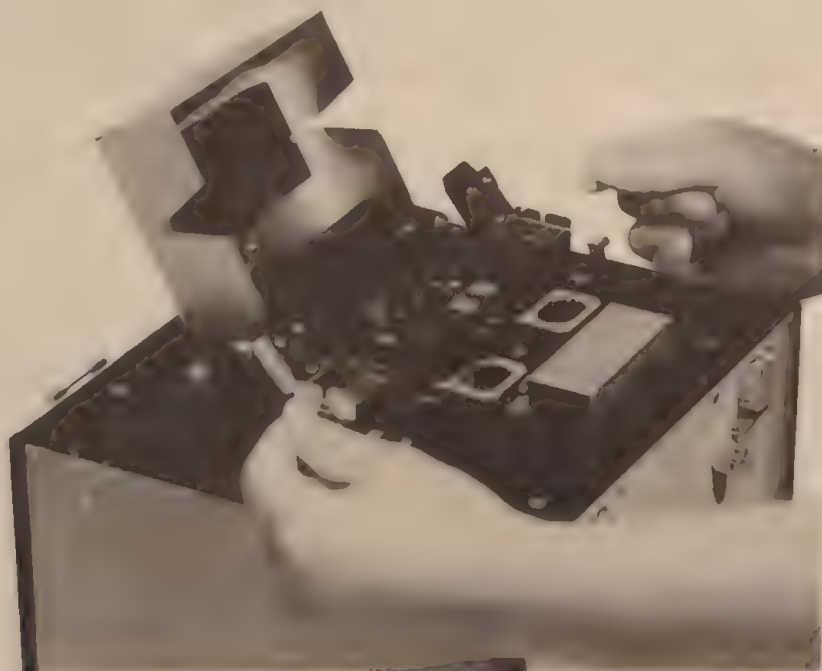

Fig. 26 Removing the Optical Fiber
(4) Open the fiber chucks of the proof tester attachment ①⑧. Then remove the optical fiber from the holder ①⑩. (Refer to Fig. 26)